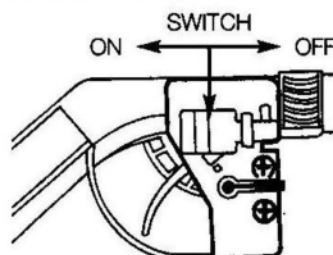
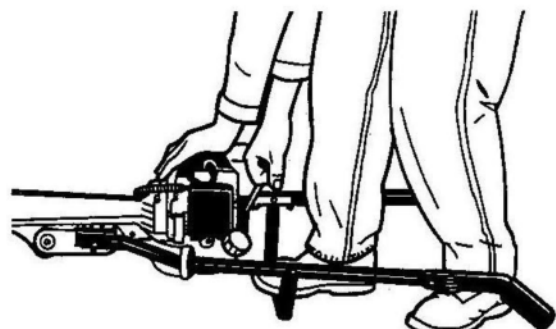

FIG 10
FIG 14
1. Place lawn edger on ground in horizontal position (see Fig. 14). Be sure the ignition switch is "ON". Pull switch toward operator to turn ON. Switch located on right side of trigger (See Fig. 10).
5. Make sure you have a firm footing. Hold down motor with left hand and put one foot on the cross brace. With right hand pull the starter grip slowly until you feel it engage - and then give it a fast pull (Fig. 14).
**! WARNING** The blade will rotate when engine is idling fast, e.g. on starting (1/2 throttle lock) or when engine is cold. TO STOP ENGINE move ignition switch forward into the "STOP" position (Fig. 10).